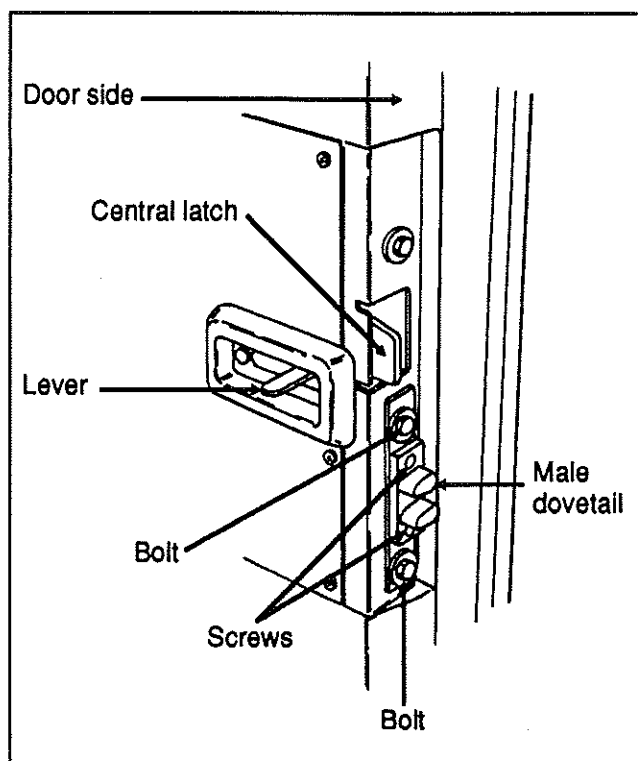

Fig. 2
5. To adjust the male dovetail on L.H. side of the door, remove the two screws and loosen the two bolts. Slide toward the interior the male dovetail and lightly tighten the two bolts. Close the door slowly but firmly, slowly open it, then tighten the two bolts. Fix dovetail to the door with the screws. See figure 2.